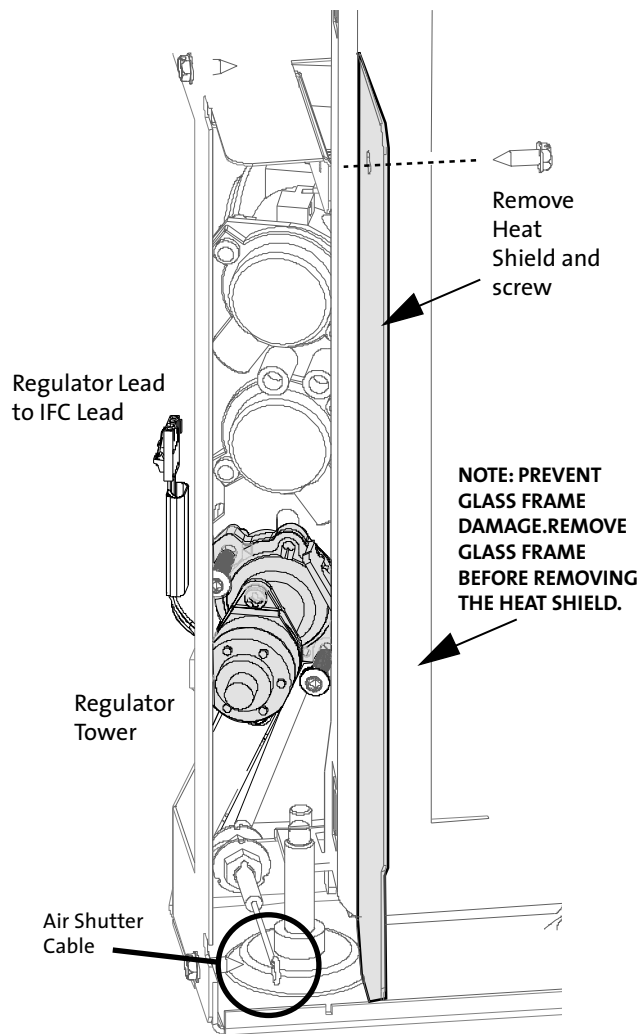

Figure 4. Replace the Regulator Tower.
7. **CHANGE THE VARIABLE REGULATOR TOWER** on the gas control valve. See fig. 4.